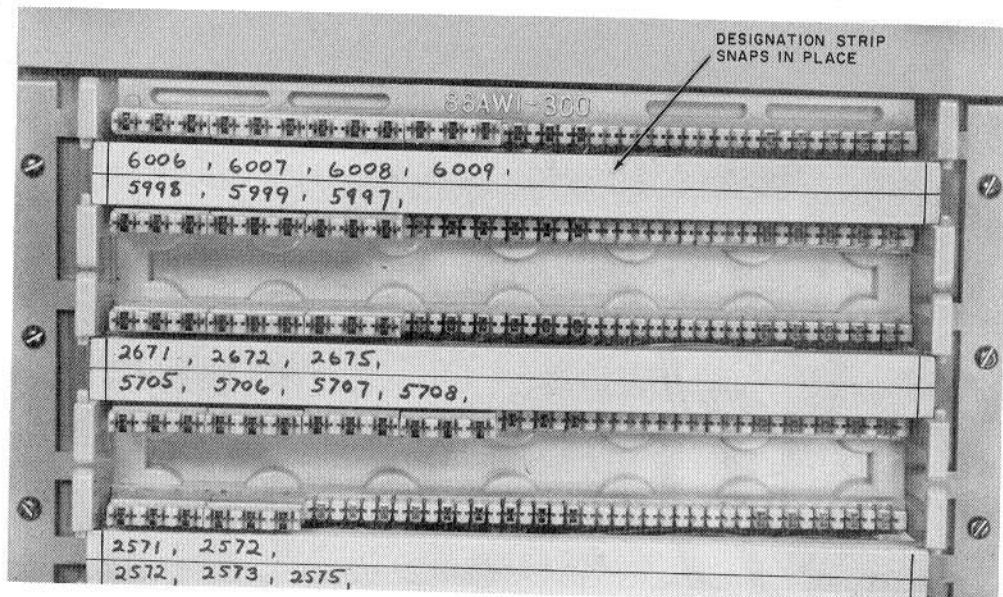

Fig. 23—Marked Designation Strips on Wiring Block
3.18 After all connecting blocks have been seated, snap the appropriately colored designation strip in the wiring block (Fig. 23). Mark the designation, as required, for later identification of lines or stations.